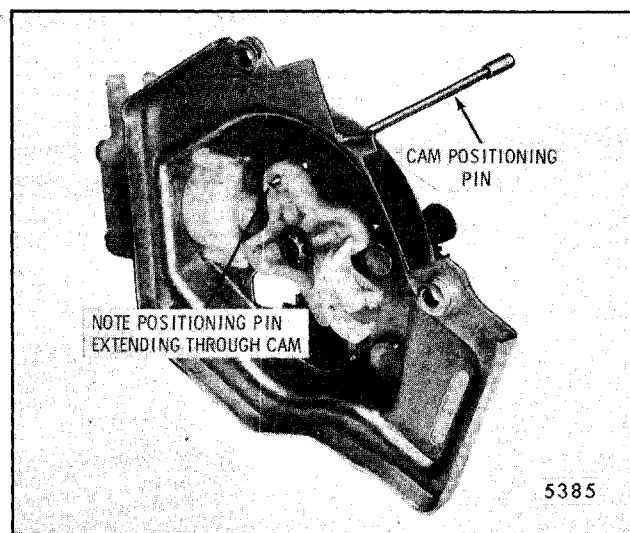

Fig. 2-130-Cam Alignment Pin Installation
2. Rotate the 4-lobed cam until index hole in the cam is aligned with the hole in the pump mounting plate. Insert a pin through both holes to maintain cam in position (Fig. 2-130).
3. Position pump on wiper so that slot in 4-lobed cam fits over the gear drive pin which is part of the lock pawl (Fig. 2-130). Secure pump to gear housing and remove locator pin, temporarily connect wiring connector.